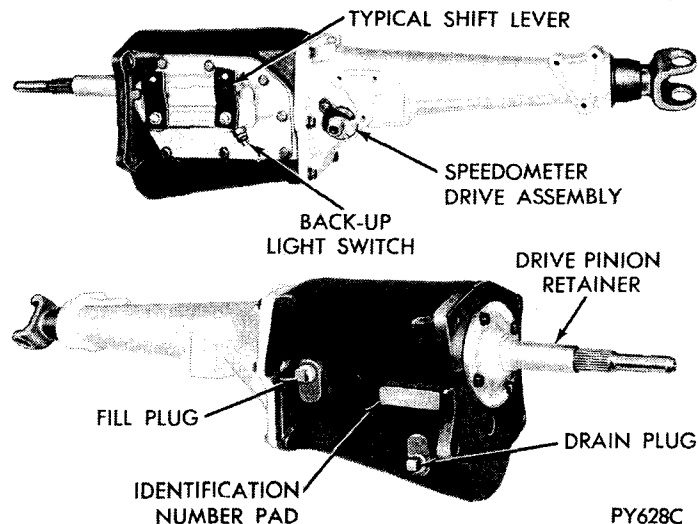
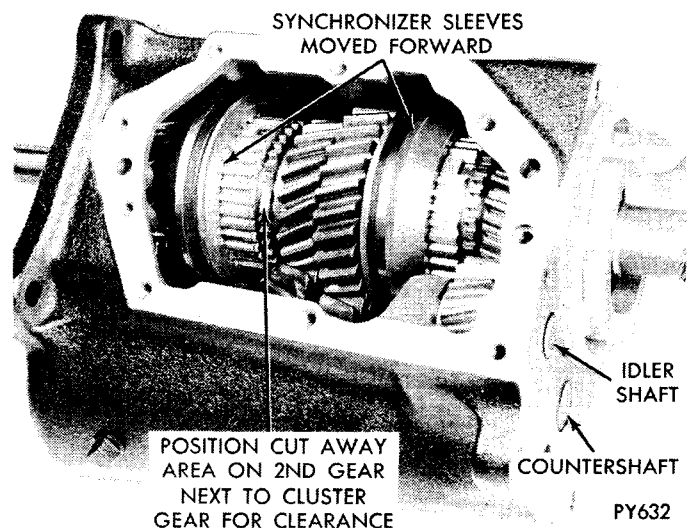

Fig. 2—A-230 Transmission—Right and Left Sides
Fig. 7—Securing Clearance for Mainshaft Removal
A pad has been provided on the right side of the transmission (Fig. 2) for transmission and vehicle identification numbers.
- (4) Rotate cut away part of second gear next to countershaft gear for mainshaft removal clearance (Fig. 7).
- (5) Also shift 2nd-3rd synchronizer sleeve forward for the same reason.
- (6) Remove bolt and retainer securing speedometer pinion adapter in extension housing (Fig. 2). Carefully work adapter and pinion out of extension housing.
- (7) Remove bolts that attach extension housing to rear of transmission case.
- (8) Tap with plastic hammer to break gasket seal and carefully guide housing off rear of mainshaft.